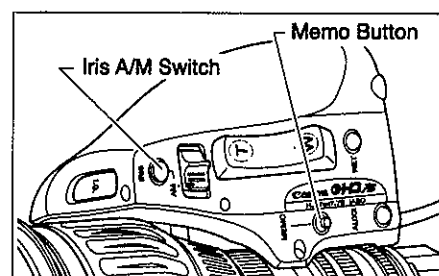

Fig. 2-10
2. Push the Set key, and push the right key to display the Zoom screen. (See Fig. 2-10)